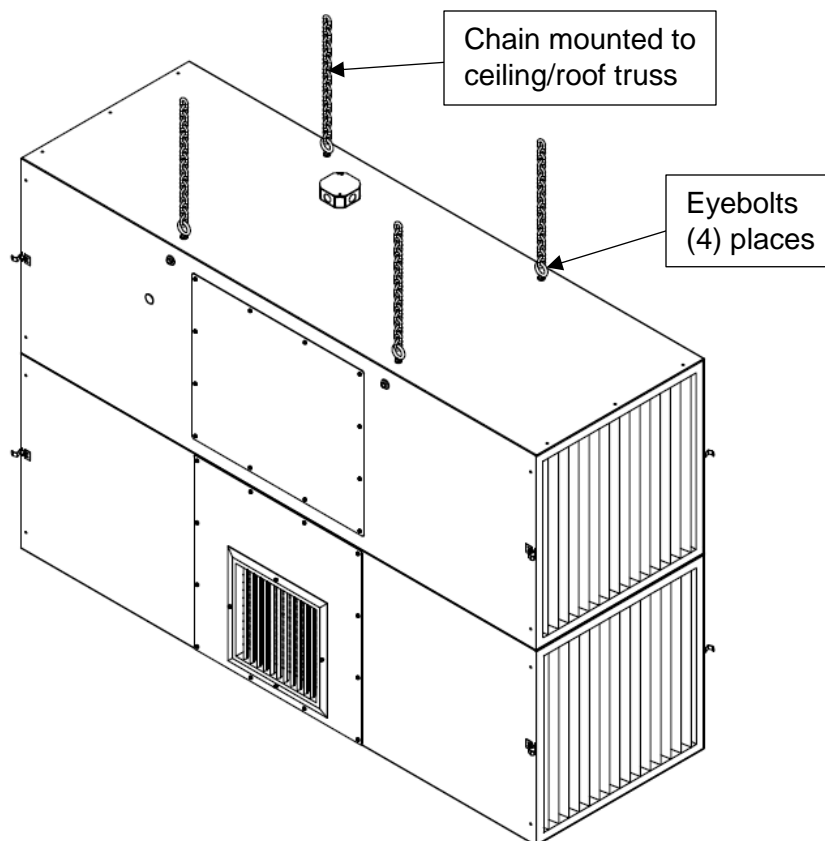
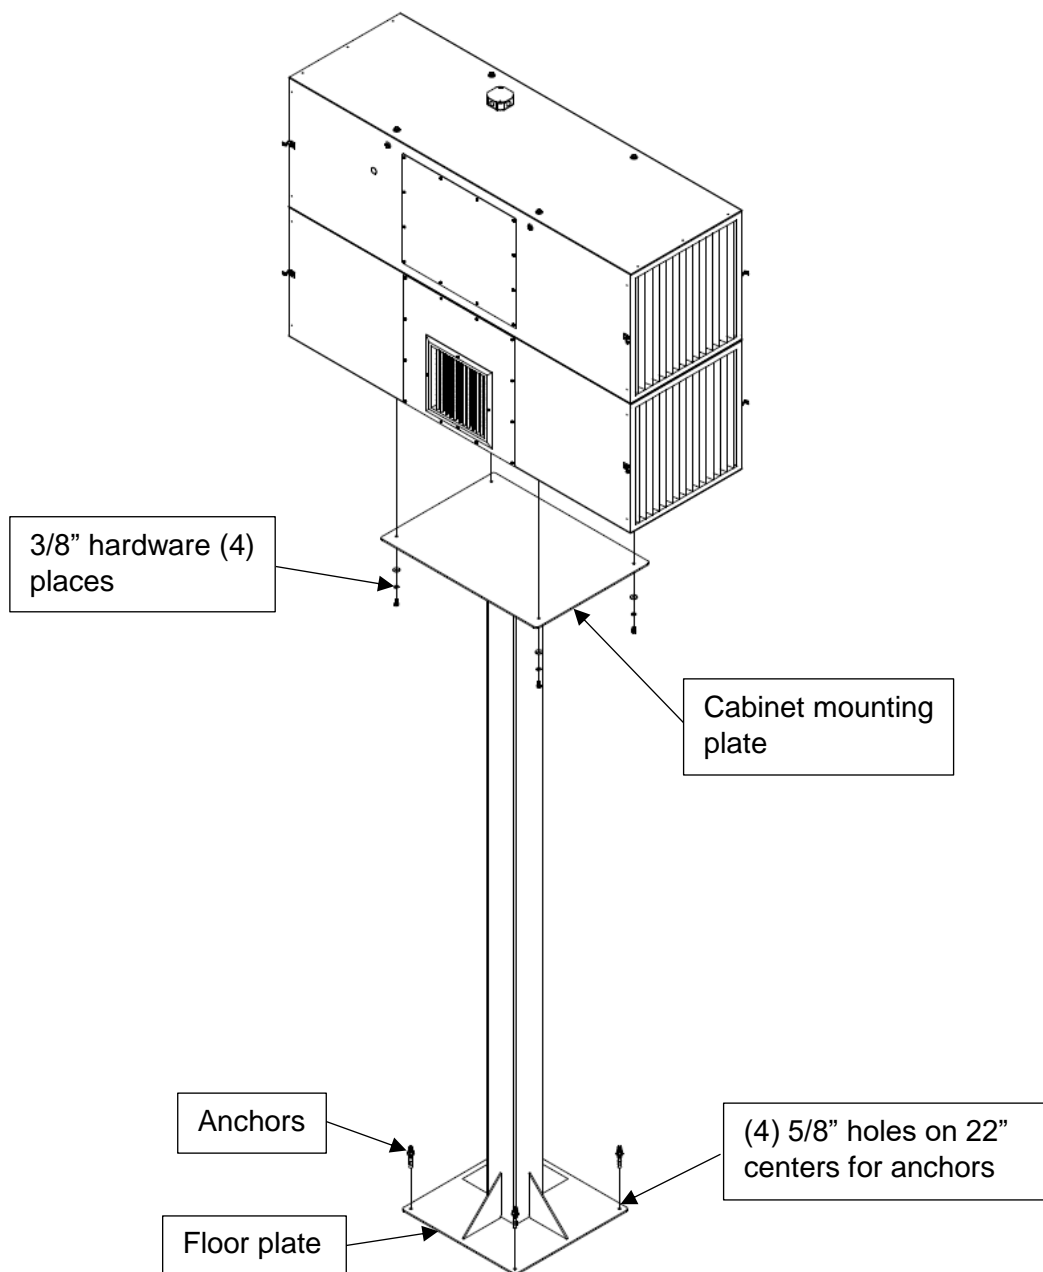

FIG. 2 – Vertical Configuration.
FIG. 6
4. Once channels are secured, the MXT is ready to be hung in an appropriate location (See **FIG. 2**).
2. Install wall mount. The brackets have (8) 7/16" holes to mount to wall (4 holes on each angle). The holes are spaced 16" apart horizontally by 24" vertically. **NOTE:** Anchors are not supplied by Micro Air. Minimum embedment depth for a 3/8" dia. wedge anchor is 1-1/2".
3. Lift unit to access the threaded holes on the bottom of the cabinet. **NOTE:** The cabinet can be lifted by installing eyebolts on the top. Eyebolts are not supplied by Micro Air (See **FIG. 2**).
2. Install floor stand. The stand has (4) 5/8" holes to mount to the floor. The holes are spaced 22" apart. **NOTE:** Anchors are not supplied by Micro Air. Typical minimum embedment depth for a 1/2" dia. wedge anchor is 2-1/2".
3. Lift unit to access the threaded holes on the bottom of the cabinet. **NOTE:** The cabinet can be lifted by installing eyebolts on the top. Eyebolts are not supplied by Micro Air (See **FIG. 2**). Install cabinet to floor stand by bolting to the bottom of the cabinet with the hardware supplied (See **FIG. 6**).